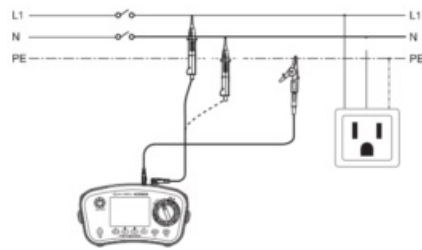
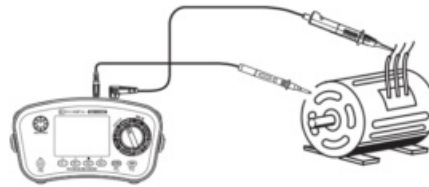
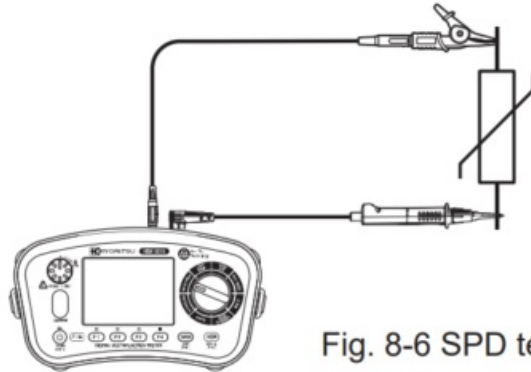

Fig. 8-4
Fig. 8-5
Fig. 8-6 SPD test Connection diagram
7. Place the tip of test lead to the LINE terminal to the circuit under test and press the test switch or remote-control switch. (Fig. 8-4, Fig. 8-5, Fig. 8-6)